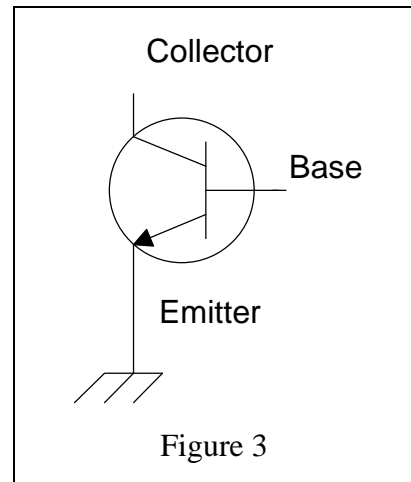

Figure 3
**The transistor as an electronic switch.** The British call transistors and vacuum tubes “valves.” This is a very accurate description of the function of transistors in an electronic circuit, a transistor is an electrically controlled valve where a tiny control current is used to control the flow of a much larger current. If this electronically controlled valve has only two states, full-on or full-off, then the transistor is essentially an electrically controlled switch. In figure 3, if a positive current is applied to the base of the transistor, the transistor will turn on and provide a path for current to flow between the emitter and collector. If zero current is applied to the base, the transistor will turn off and the current path between the emitter and collector will open preventing current flow.